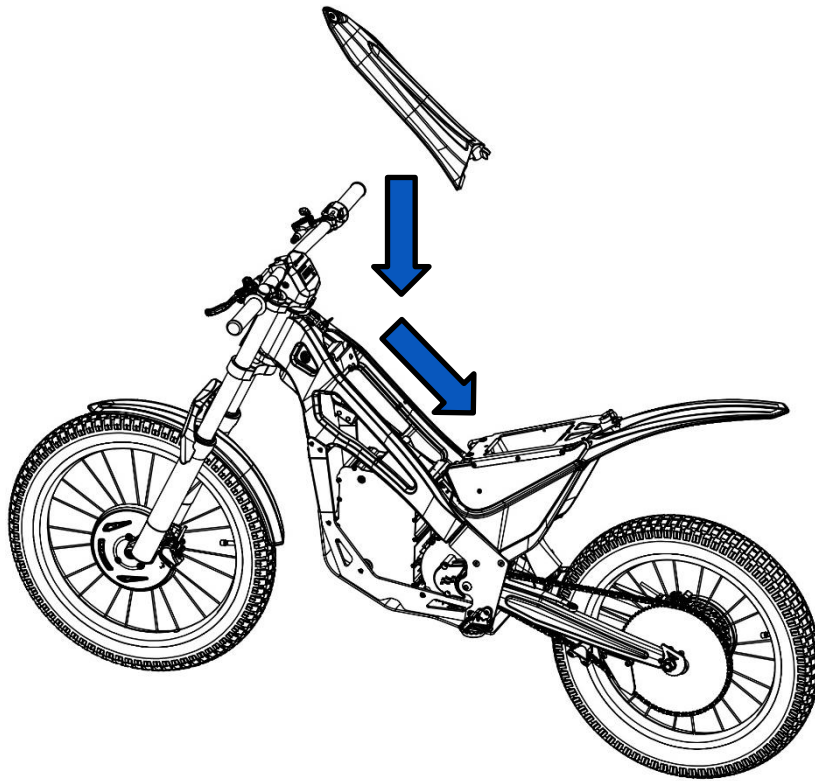

Fig. 46
- 6- Next, attach the upper casing to the frame (Figure 46).